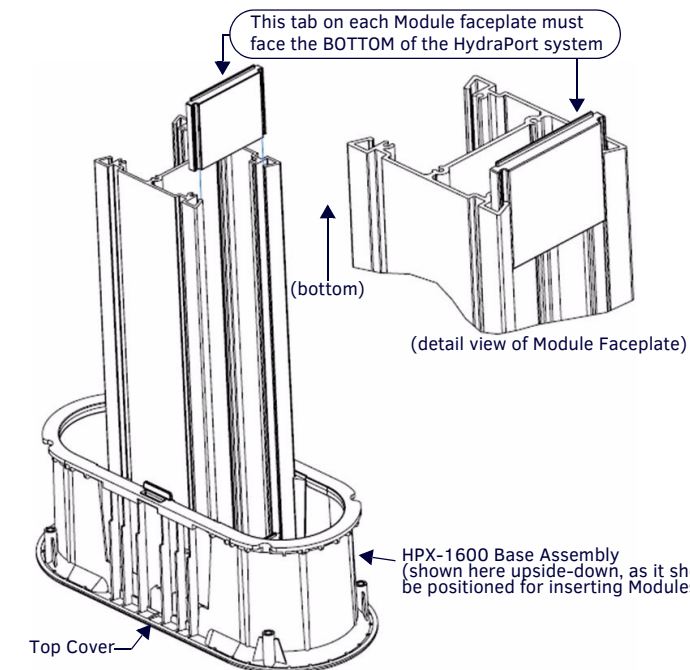
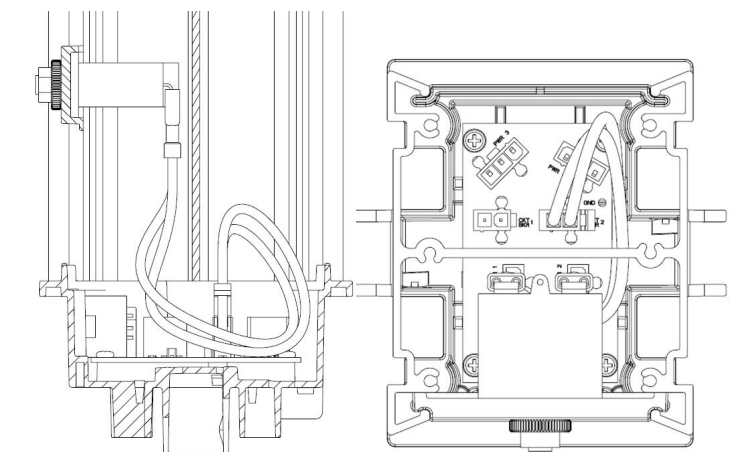

FIG. 7 INSERTING MODULES INTO THE HPX-1600 BASE ASSEMBLY
FIG. 8 BOTTOM COVER - CONNECT EACH AC POWER MODULE TO THE POWER INLET ASSEMBLY
- Slide the pre-terminated modules one at a time into the Base assembly. Note the orientation of each module: a small tab exists on the bottom side (shown facing up in FIG. 7) of the faceplate of each module. Ensure this tab is facing the bottom side of the system (see FIG. 8).
- For AC power modules, plug the provided wire harness into the Power Inlet assembly inside the bottom cover (FIG. 8).
Note: International units (FG550-BL, FG550-SL) include 2 circuit breakers for line and neutral. Both circuit breakers are required for operation. Take care while routing the wires to the circuit breaker positioned on the opposite side of the chassis from the 2 circuit breaker connectors on the Power Inlet assembly (see FIG. 8).